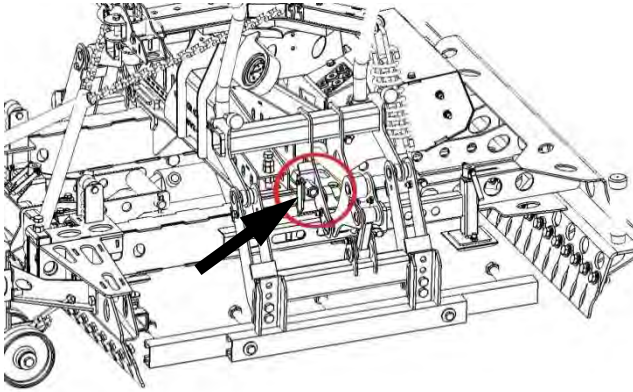

Fig. 17
Insert bolt (3) again and secure the bolt with safety clip (4) (as shown in fig.17) again